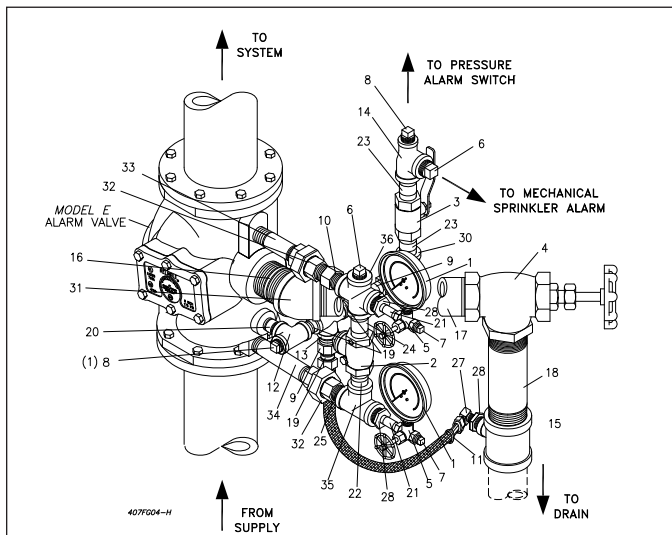

Fig. 4 Constant Pressure Vertical Installation
Constant Pressure (Figs. 4 & 6)
When the water ceases to flow through the Alarm Valve, the Clapper (4) returns to its seat thus stopping the flow of water to the retard chamber. Drain Orifices (Item 9, Fig. 4 & 6) allow the retard chamber and alarm line to empty through the drain line (Item 11, Fig. 4 & 6).